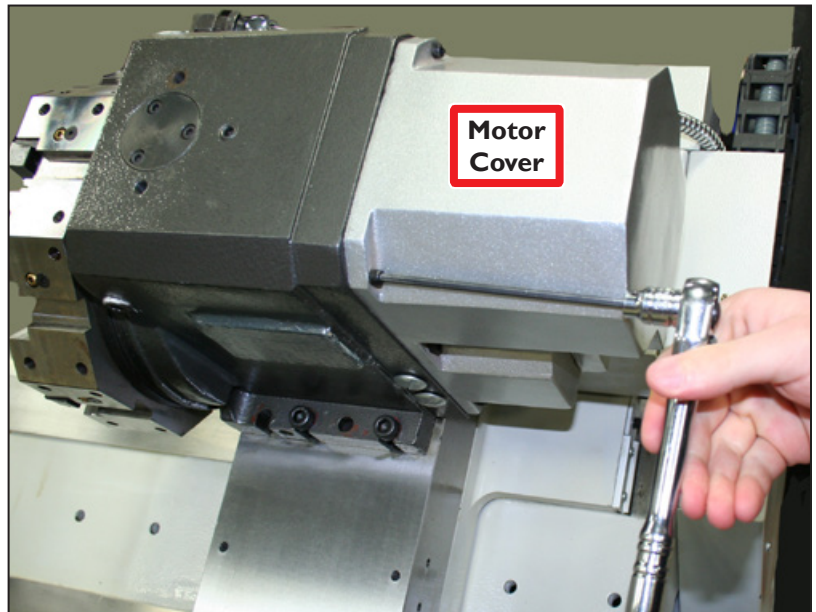

Figure 44
2. Remove six socket head cap screws attaching the *Motor Cover* to the back of the *Turret* (see **Figure 44**); remove cover.